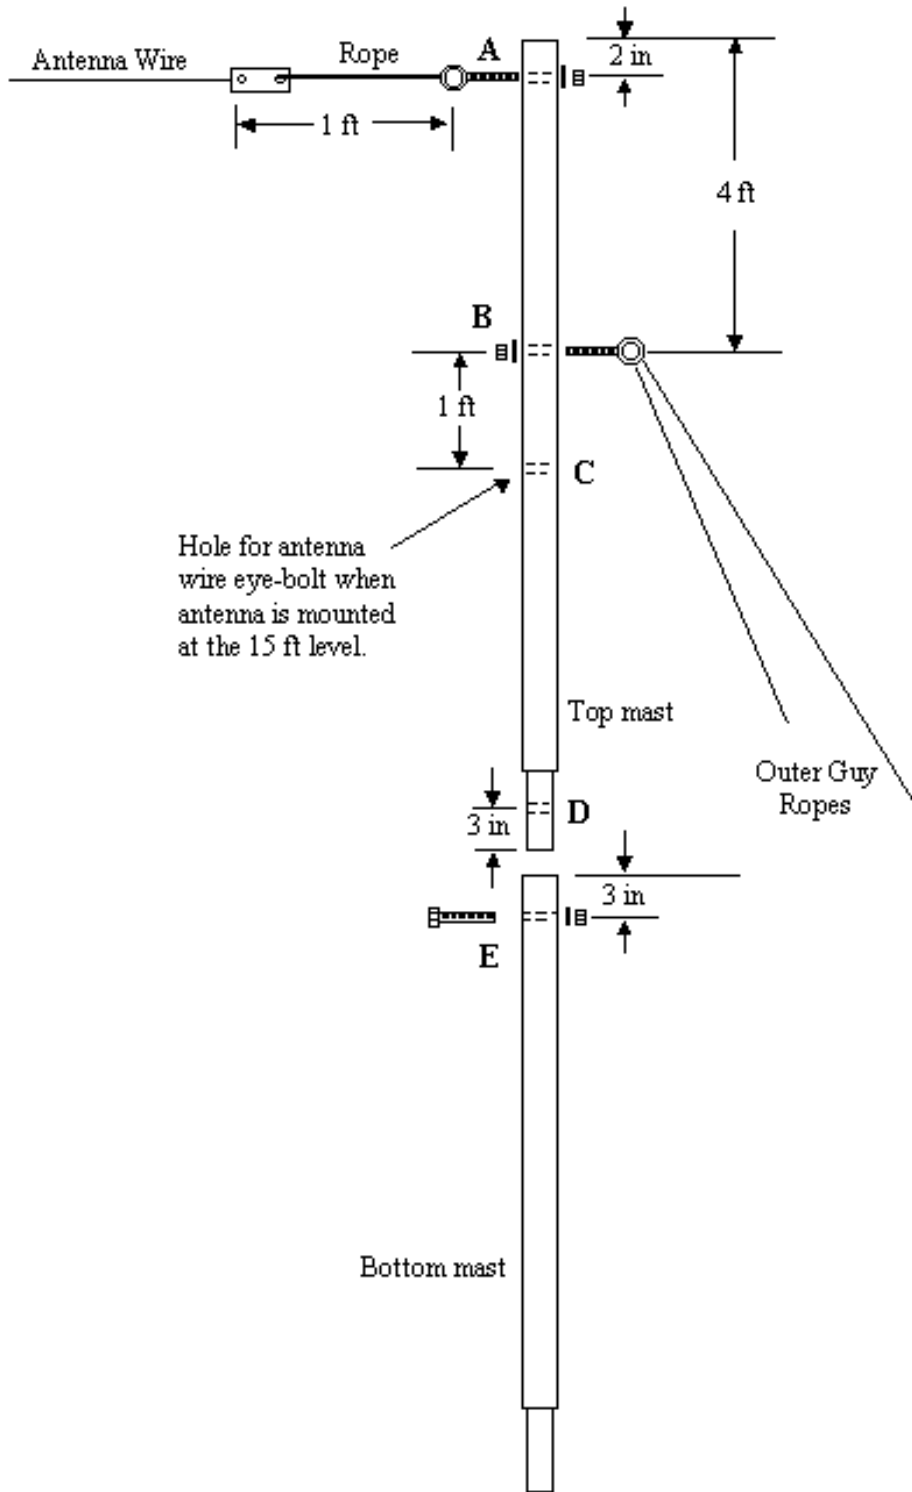

Figure 6.4 – Metal Mast Assembly.
6.4. Metal Mast Assembly (Refer to Figures 6.4 and 6.5)
2. O **Refer to Figure 6.4.** *All holes through the masts are 1/4 inch diameter.* A hammer and punch (or nail) can be used to make a starting point for drilling. A pilot hole using a 1/8 in drill bit is recommended. Eyebolts and bolts should be secured using a flat washer, lock washer and a nut. All holes in the top mast should be in the same plane.
4. O Drill hole (E) through the bottom mast.
5. O Insert the top mast section 6 inches into the bottom mast section. Using hole (E) as a guide, match-drill a hole though the top mast section – this becomes hole (D). The best way to match-drill the holes is to drill the inner mast from each side – using hole E as a guide. Then without moving the two masts relative to each other, run the drill all the way through both masts
6. O Secure eyebolt in hole (B).
- 9a. O For a 20-foot-high antenna attach the antenna eyebolt at hole (A).
- 9b. O For a 15-foot-high antenna attach the antenna eyebolt at hole (C).
- B. *For the metal mast installation refer to Figures 6.4 and 6.5.* Cut 8 ropes to 21 feet. Attach 2 ropes to each of the eyebolts at the 16 ft level (hole B).